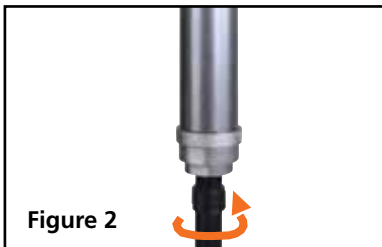

Figure 2
1. Screw the suction tube assembly clockwise (Fig. 2) into the bung nut. Apply thread sealant to the threads of the tube assembly before attaching it to the bung nut. Tighten the connection securely but do not use undue force.